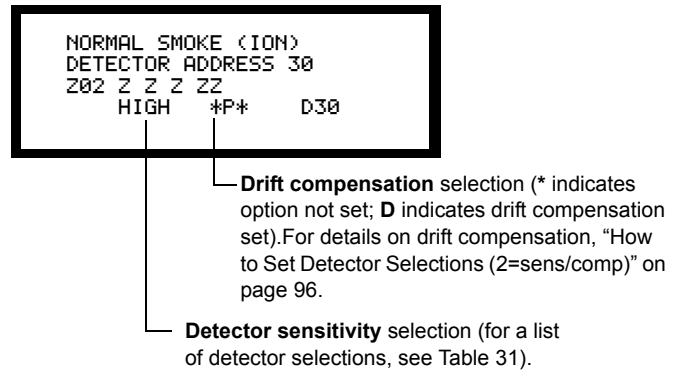

Figure 89 Sample Screen for Changing Detector Selections
2. Enter a valid detector SLC address and the control panel displays information for the detector on a screen similar to sample screen shown in Figure 89 with the current detector sensitivity selection blinking.